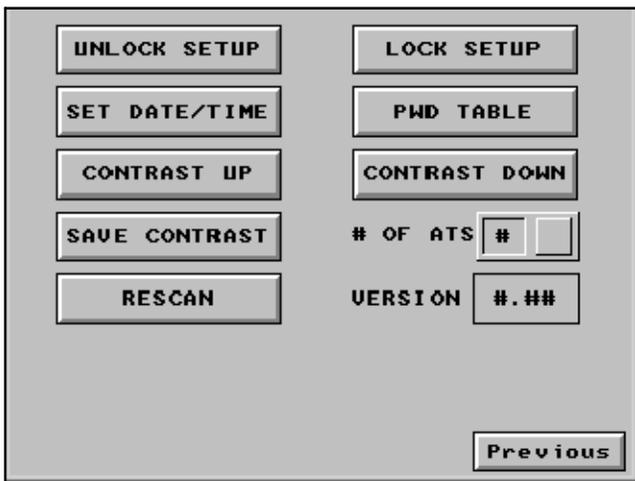

Figure 11 Setup Screen
- Press the Setup button at the lower left corner of the Summary screen. The Setup screen shown in Figure 11 appears.
- When the correct password has been entered, the Setup screen returns. Press the button to the right of # OF ATS in the second column. See Figure 11. A numeric keypad appears. Touch the correct number of connected transfer switches and press the enter key (ENT).